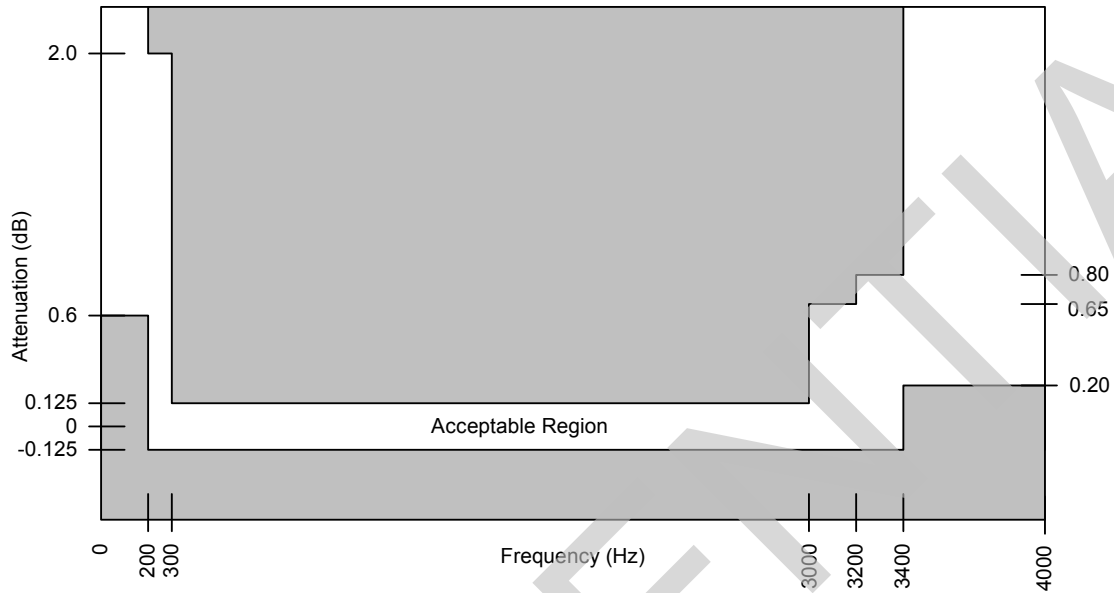
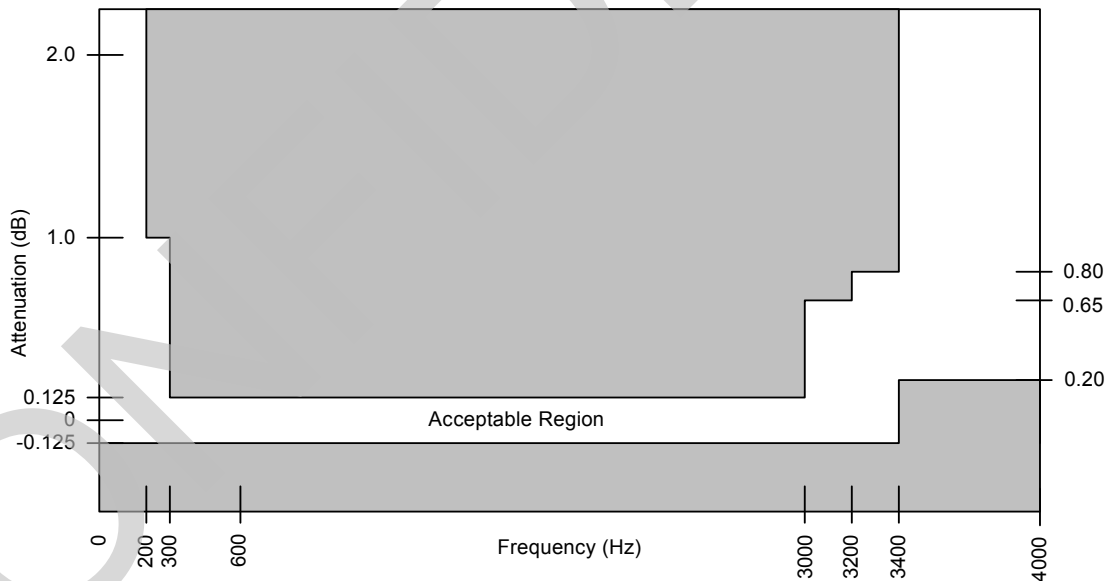

Figure 18 - Transmit (A to D) Path Attenuation vs. Frequency
Figure 19 - Receive (D to A) Path Attenuation vs. Frequency
3. See Figure 18 and Figure 19 on page 38.
The signal attenuation in either path is nominally independent of the frequency. The deviations from nominal attenuation will stay within the limits shown in Figure 18 and Figure 19. The reference frequency is 1014 Hz and the signal level is -10 dBm0.